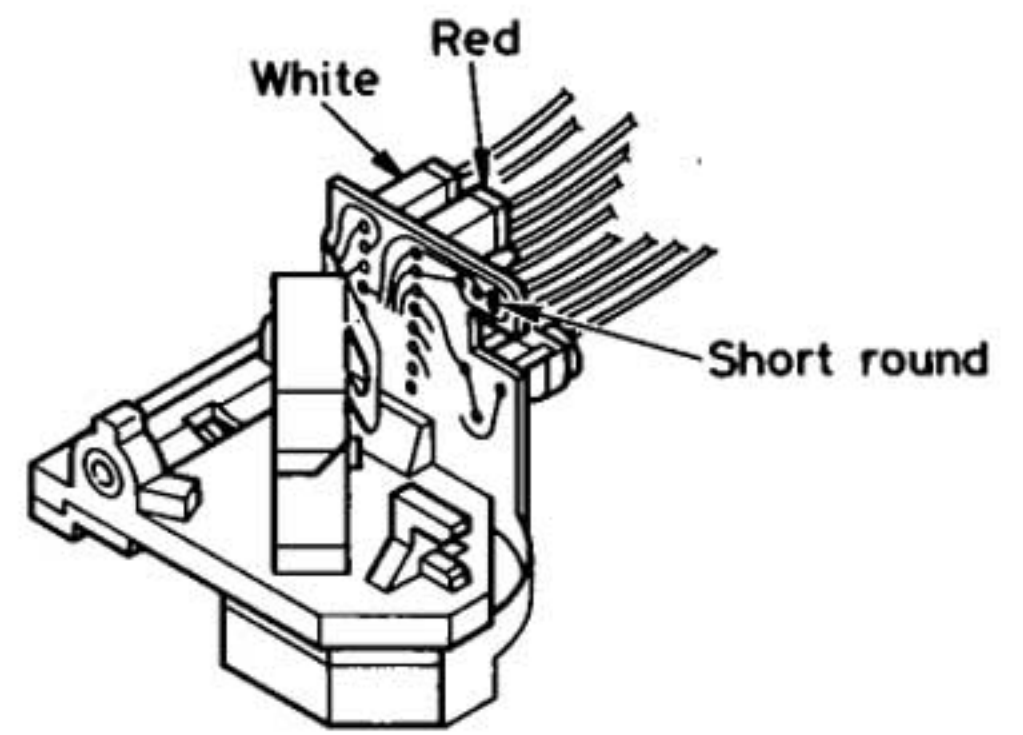

Figure 11
7. Place shorting round as shown in Figure 11 and remove both wire connectors.
9. After you connect the wire connectors, desolder and remove the shorting tab. (See Figure 11)